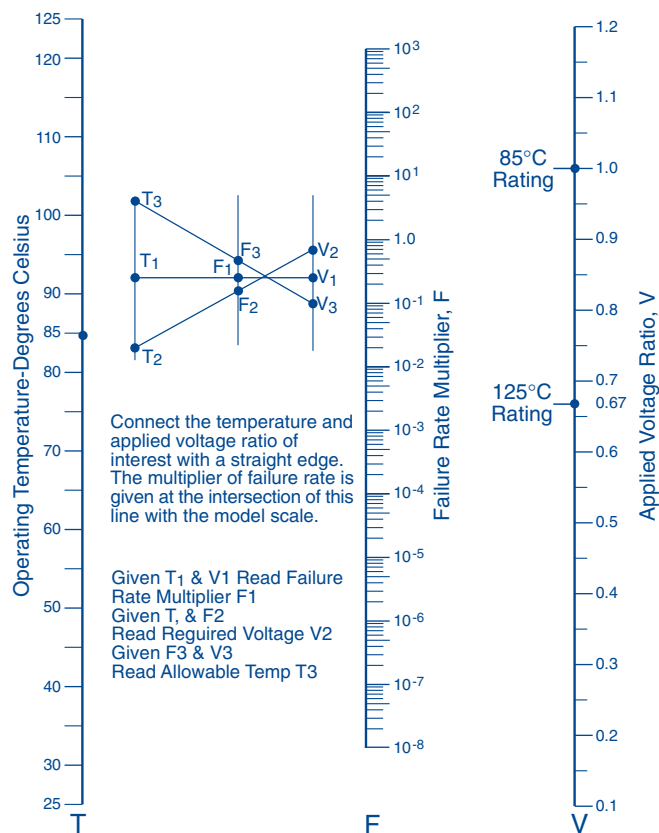

Fig 6 Reliability alignment chart
Expected reliability factors for voltages and temperatures other than the rated conditions may be found in Figure 6. Since **T210** Series capacitors are supplied with a predetermined failure rate under rated conditions, reliability under use conditions may be estimated with this nomograph.
**Circuit Impedance —** Failure rates are affected by temperature and voltage as described in Figure 6 and also by the circuit impedance seen by the capacitor. Originally, application advice for solid tantalum capacitors suggested an impedance of 3 ohms or higher per applied volt. This advice was later found to be unnecessarily conservative, and the factors below are based on 0.1 ohm per volt as the unity failure rate multiplier.